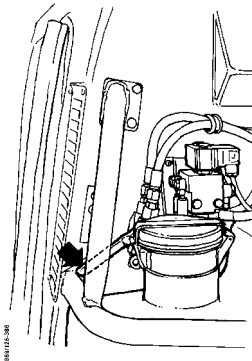

Fig 5. Manual fuel shut off valve (open position)
- f Uncover the air inlet and secure the cloth cover. See Fig. 5:2.